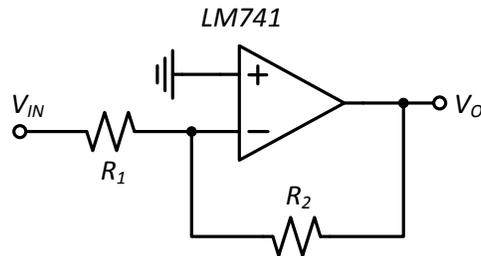

Figure 6. Circuit for exercises L1.6-7. Decoupling capacitors and offset compensation are not shown.
- L1.7 Using the same opamp as in the previous exercises, reconnect the amplifier in an inverting configuration with a gain of -10 using the schematic shown in Figure 6. Determine the appropriate values for R_1 and R_2 , and measure their values before inserting them into the circuit. Choose the input amplitude for the function generator
- L1.8 Reconfigure the inverting amplifier shown in Figure 6 for a gain of -100 and repeat the steps from L1.7. Show your amplifier and results to the GSI and be prepared to answer questions.